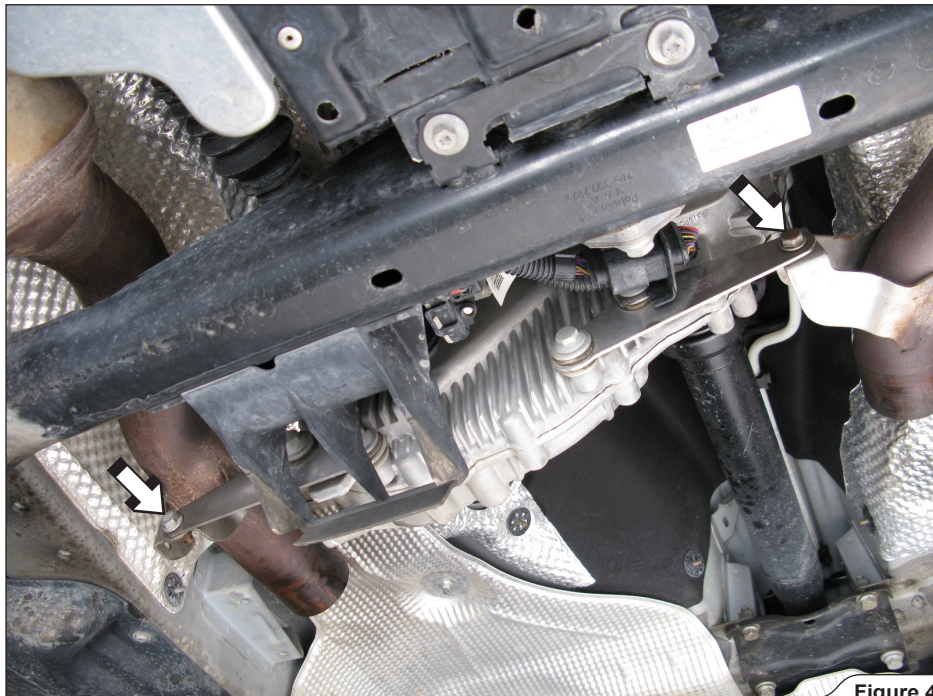

Figure 4
5. **For Optional Front Link Pipe Set only:** unscrew the marked bolts and carefully remove the stock front link pipes off the vehicle (**Figure 4**).